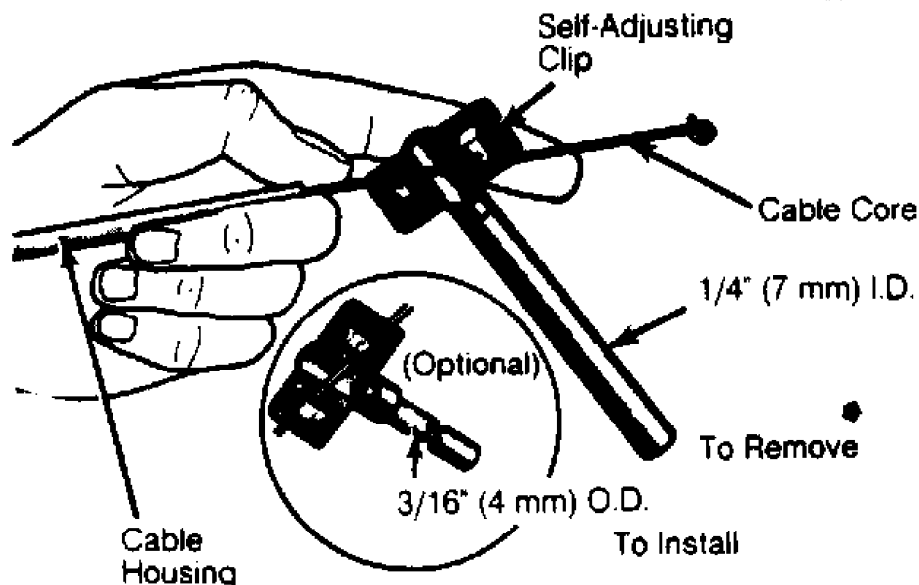

Fig. 4: Removal or Installation of Self-Adjusting Clip
2) On all models, pull cable out from evaporator-heater assembly. Place a 1/4" (7 mm) I.D. tube over clip and pry self-adjusting clip off cable core. To install, place self-adjusting clip in locked position 2" from loop at end of cable core. With a 1/4" (7 mm) I.D. tube, twist self-adjusting clip into position on core wire. See Fig. 4.